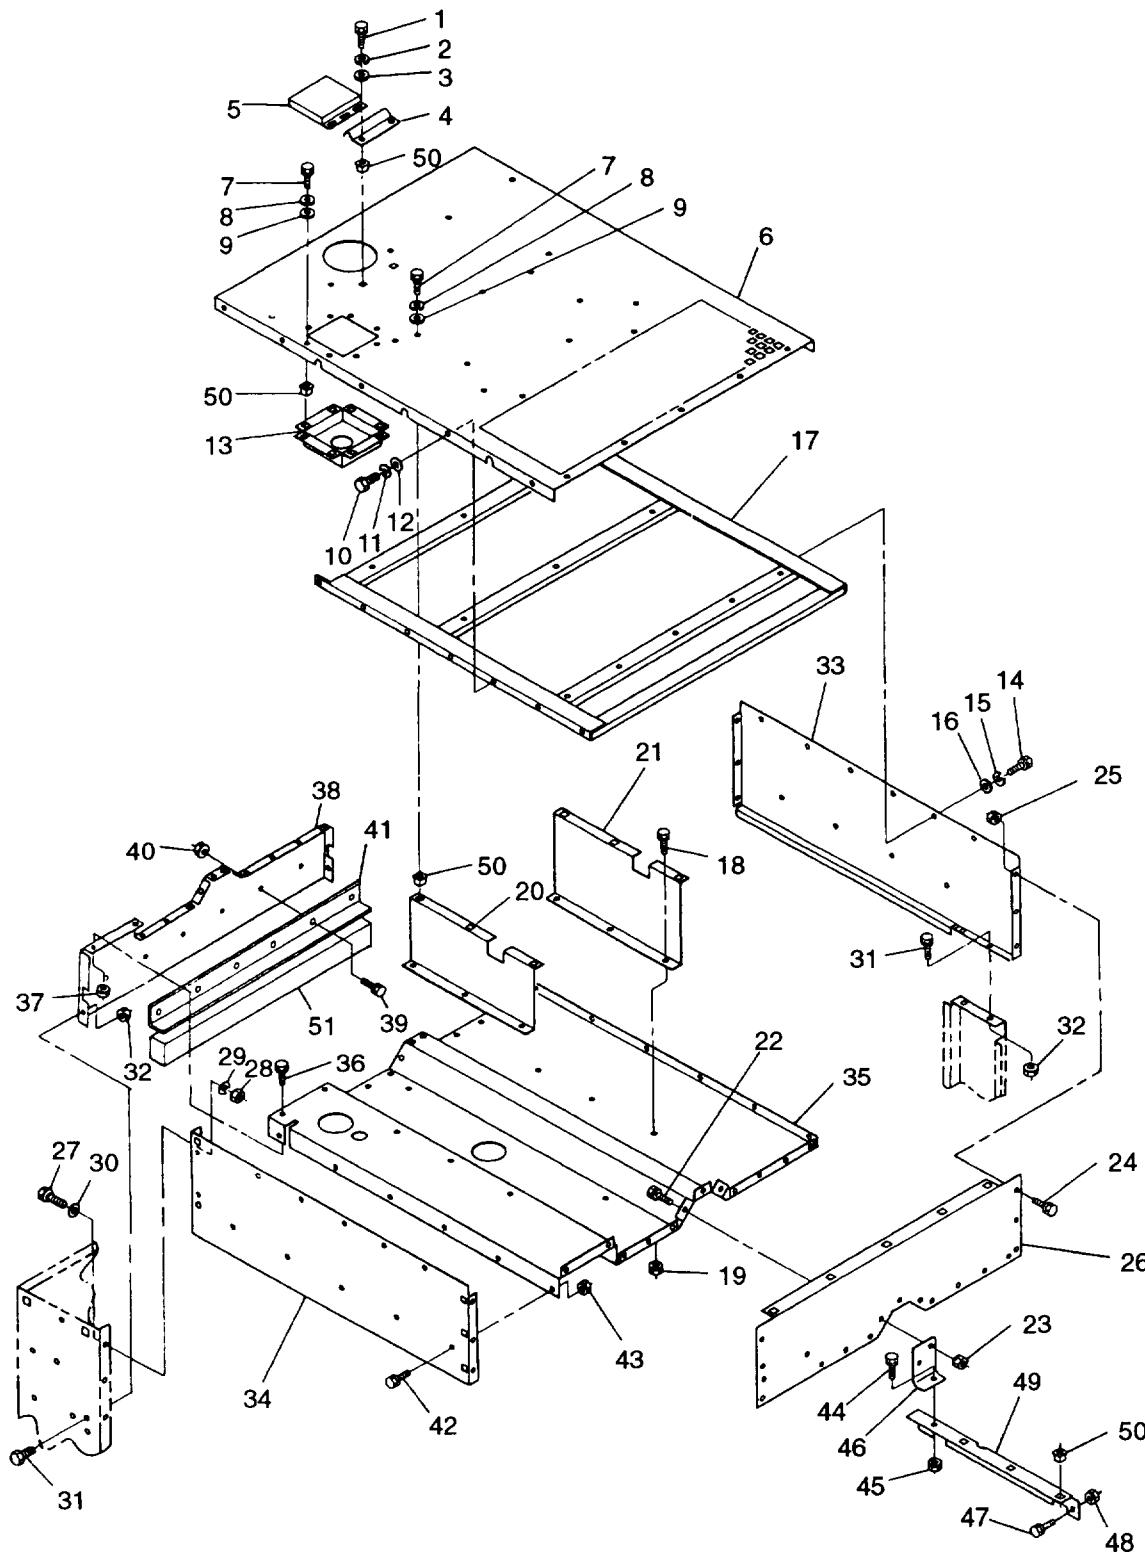

FIGURE 2-7. Generator Set Top Housing Section
- c Remove bolts (1, FIGURE 2-7), flatwashers (3), lockwashers (2), mount (4), and exhaust cover (5) from top housing panel (6).
- d Remove bolts (7 and 10), flatwashers (9 and 12) lockwashers (8 and 11), and top housing panel (6) from generator set.
- e Disconnect radiator fill hose and overflow hose from radiator fill panel (13) and remove radiator fill panel (13) from generator set.
- f Remove bolts (14), flatwashers (16), lockwashers (15), and frame (17) from generator set.
- h. Remove bolts (18), assembled nuts (19), and air duct channels (20 and 21).
- o. Remove bolts (47), assembled nuts (48), and angle (49) from generator set.
- c. Inspect all cage nuts (50, FIGURE 2-7) for cracking or stripped threads.
- d. Inspect seal (51) for tears, looseness, and deterioration.
- c. Repaint surfaces in accordance with TM 43-0139. (F) Refer to applicable directives.
- d. Replace any cage nuts (50, FIGURE 2-7) that are stripped or cracked.
- e. Replace loose or damaged seal (51).
- a. Install angle (49, FIGURE 2-7) in generator set with bolts (47) and assembled nuts (48).
- b. Install bracket (46) to angle (49) with bolt (44) and assembled nut (45).
- c. Install top side panels (34) and (33) on top section floor panel (35) with bolts (42) and assembled nuts (43).
- d. Install support (41) on panel (38) with bolts (39) and assembled nuts (40).
- e. Install panel (38) on top section floor panel (35) with bolts (36) and assembled nuts (37).
- f. Position top section floor panel (35), with side and front panels attached, in generator set and secure with bolts (27) and (31), flatwashers (30), lockwashers (29), nuts (28), and assembled nuts (32).
- g. Install panel (26) with bolts (22) and (24), and assembled nuts (23) and (25).
- h. Install air duct channels (20) and (21) with bolts (18), and assembled nuts (19).
- j. Install frame (17) with bolts (14), flatwashers (16), and lockwashers (15).
- k. Install radiator fill panel (13) in generator set and connect radiator fill hose and overflow hose to panel (13).